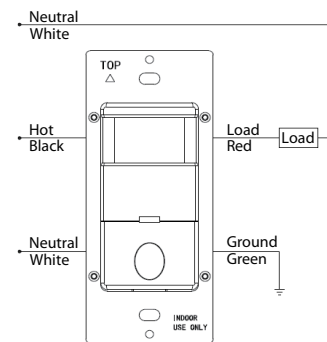

Figure 2
1. Connect lead wires as WIRING DIAGRAM(see Figure 2):